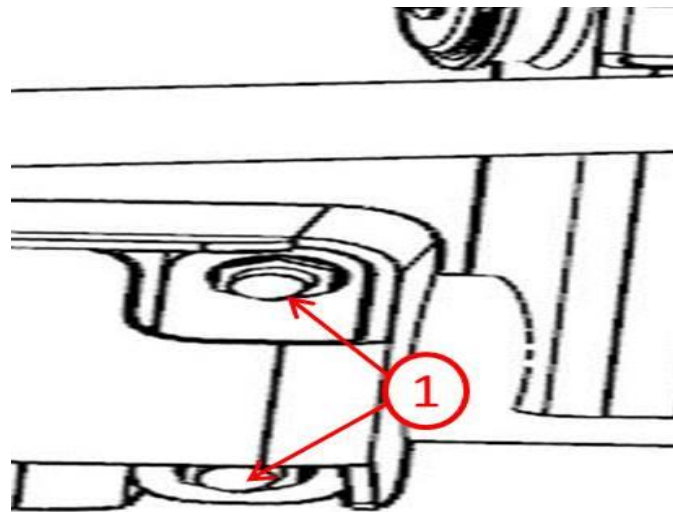

**Fig. 4 U Bolt**
13. Install the provided U-bolt (1) on the bracket with the provided nuts (Fig. 4).